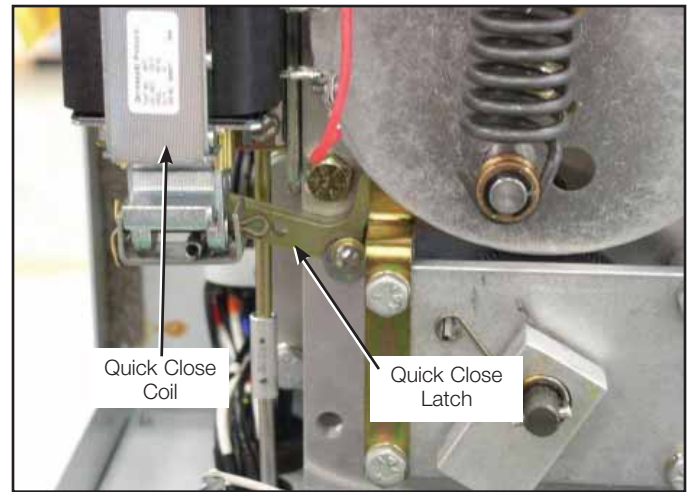

Figure 47.
- iii. Crank the unit until the VR-68 crank lever snaps against the Quick Close latch. Refer to Figure 47.